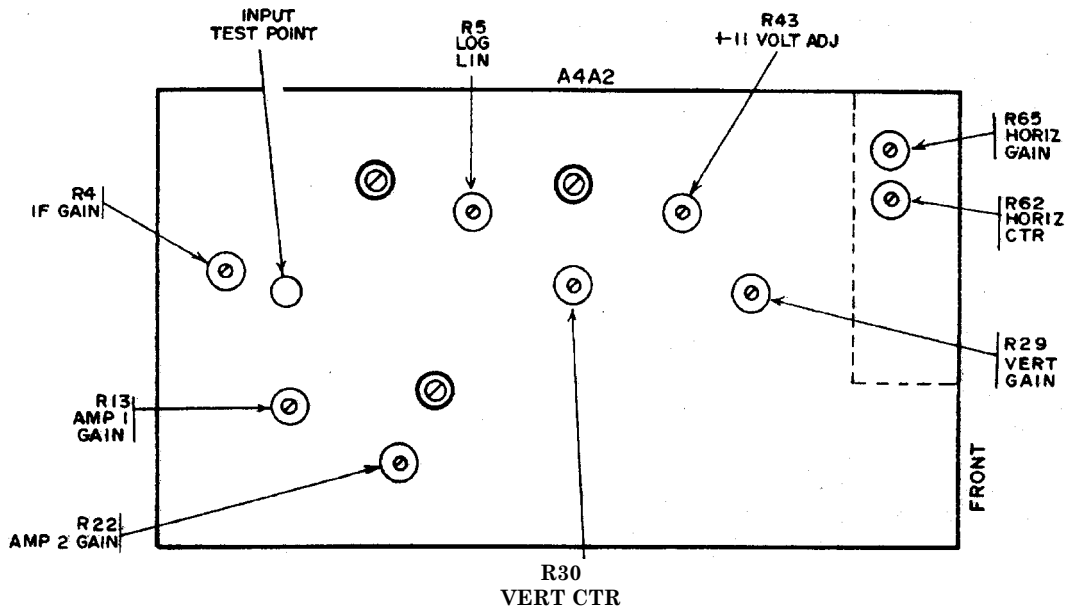

Figure 6. Spectrum analyzer No. 2 - adjustment locations.
- (2) Adjust +11 VOLT ADJ A4A2R43 (fig. 6) for an 11 V indication on multimeter (R).
- (3) Adjust VERT CTR A4A2R30 (fig. 6) until bottom of trace indicates -109 dBm (R).
- (4) Connect oscilloscope to INPUT TEST POINT (fig. 6).
- (5) Adjust signal generator amplitude for -30 dBm.
- (6) Adjust IF GAIN A4A2R4 (fig. 6) for 0.4 V p-p spike on oscilloscope (R).
- (7) Adjust VERT GAIN A4A2R29 (fig. 6) for -30 dBm indication on TI (R).
- (8) If bottom of trace does not indicate -109 dBm, repeat **b** (3) above.
- (9) Adjust signal generator amplitude to -40 dBm.
- (10) Adjust LOG LIN A4A2R5 (fig. 6) for a -40 dBm indication on TI. If a -40 dBm indication cannot be obtained go on to next step (R).
- (11) Adjust signal generator to -30 dBm and repeat **b** (7) through (10) above until no further adjustments are required.
- (12) Adjust signal generator amplitude for -60 dBm.
- (13) Adjust AMP 1 GAIN A4A2R13 (fig. 6) for a -60-dBm indication on TI (R).
- (14) Adjust signal generator amplitude for -90 dBm.
- (15) Adjust AMP 2 GAIN A4A2R22 (fig. 6) for a -90-dBm indication on TI (R).
- (16) Repeat **b** (12) through (15) above until no further adjustments are required.
- (17) Adjust signal generator amplitude for -30 dBm and repeat **b** (7) through (16) until no further adjustments are required.
- (1) Adjust **HORIZ CTR** A4A2R62 (fig. 6) until peak of signal is centered on centerline (R).
- (2) Adjust **HORIZ GAIN** A4A2R65 (fig. 6) until end of trace is aligned with right edge of bezel.
- (3) Repeat (1) and (2) above until no further adjustments are required.